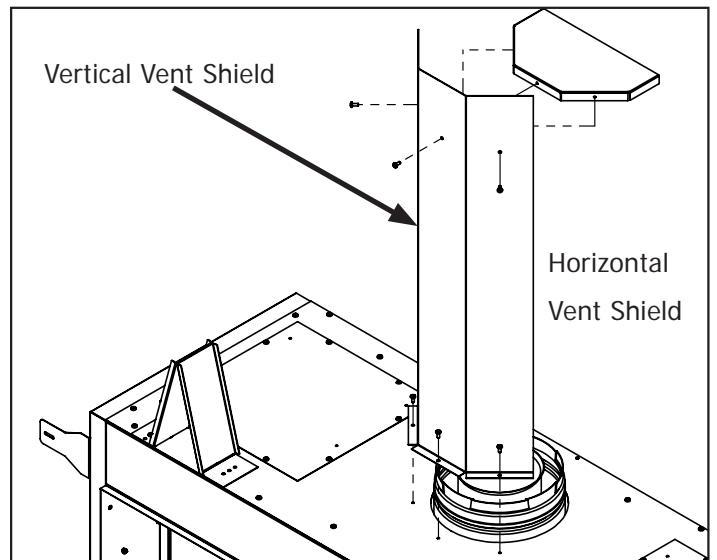

Figure 39: Vent Shielding Install
**IMPORTANT:** All installations must include the vertical vent shield. The horizontal vent shield is only installed if the fireplace is horizontally terminated with the minimum vertical rise of 30". If more than 30" of vertical rise is used in the vent configuration no horizontal shield is needed. See Figure 39 for shield install. Screws are pre-installed in cabinet and horizontal vent shield. Use a T-20 screwdriver or drill driver to remove screws then install shields.